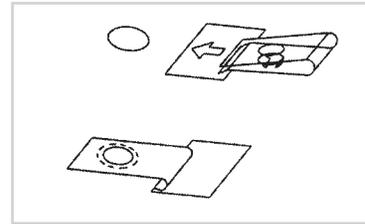

Figure 6a
- Slide “U” type nuts on to the rotor bottom and the inner doors so that the clip hangs on to the sheet metal and the threaded emboss is exposed on the inside of the clearance holes (Figure 6a).